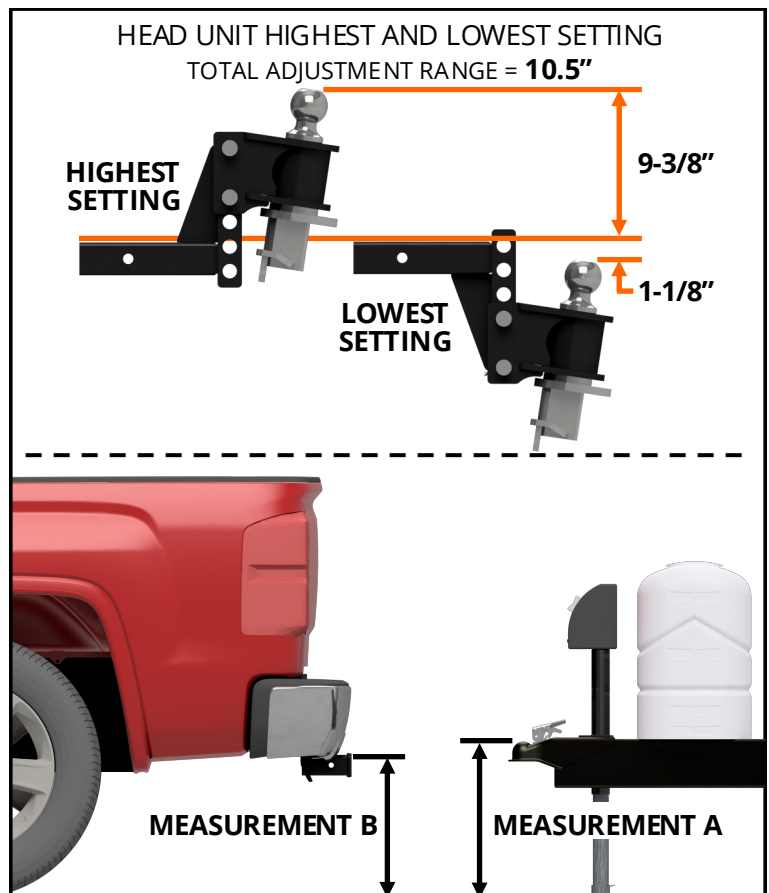

FIGURE A4: View of trailer and tow vehicle.
- The height of the trailer coupler and the tow vehicle receiver must be within the adjustment range of the hitch. Use **Figure A4** and the formula below to determine if the height of the trailer and tow vehicle will allow the hitch to couple. The top of **Figure A4** shows the adjustment range of the hitch.